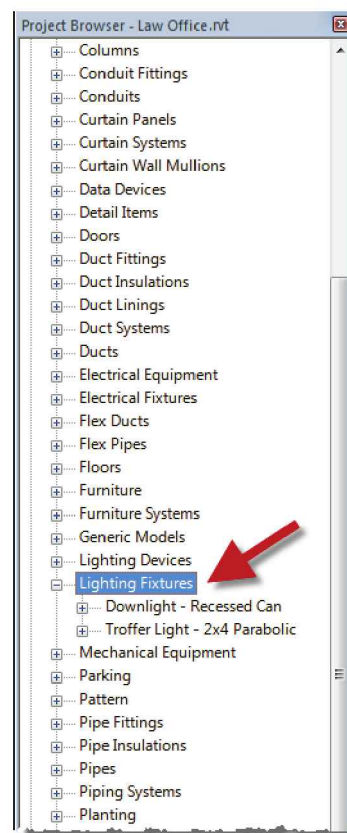

FIGURE 14-4.1
3. Expand the **Lighting Fixtures** section (Figure 14-4.1).